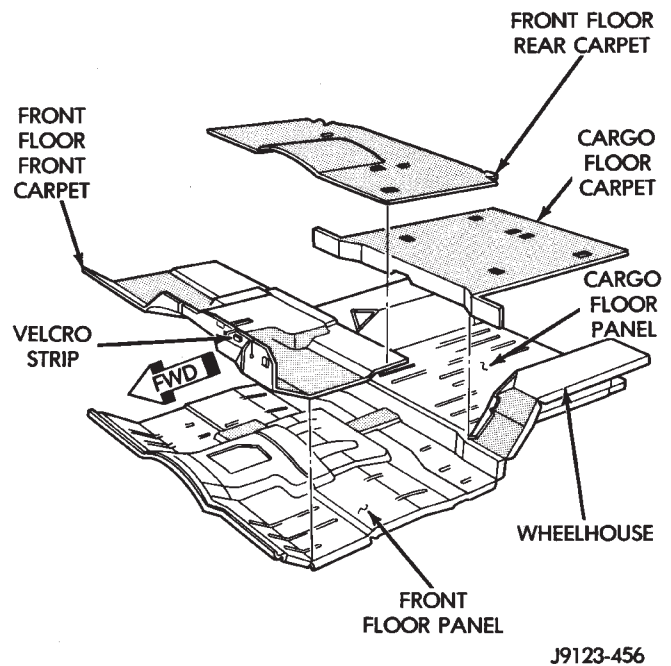
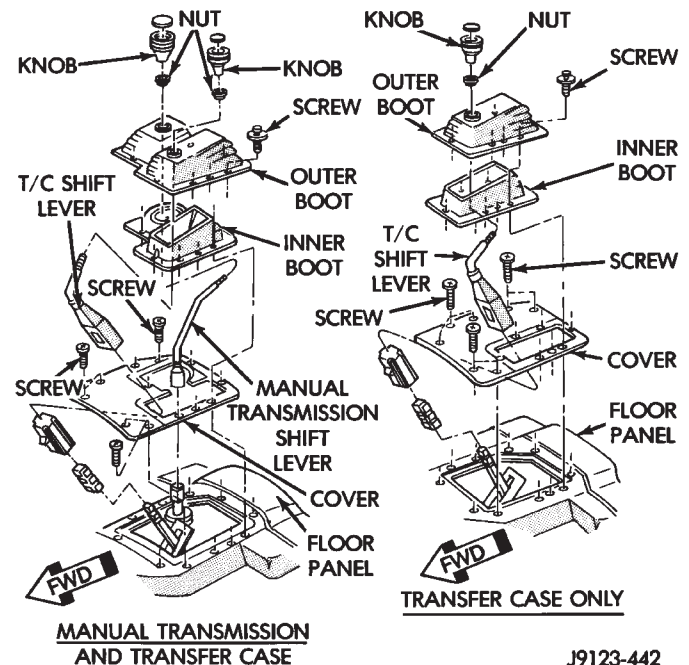

Fig. 30 Floor Carpets
Fig. 31 Shift Lever Boots
The front floor rear carpet (Fig. 30) is retained in place by the:
To remove and then install a front floor rear carpet (Fig. 30), it is necessary to remove and then install the front seats and the floor console.
The front floor front carpet (Fig. 30) is retained in place by the:
- transmission/transfer case shift lever boots (Fig. 31),
To remove and install a front floor front carpet (Fig. 30), it is necessary to remove and then install the shift lever boots (Fig. 31).
When replacing a front carpet, position and cut openings in carpet with a razor knife for shift levers and boots (Fig. 31).
The cargo floor carpet (Fig. 30) is retained in place by the:
To remove and then install a cargo floor carpet (Fig. 30), it is necessary to remove and then install the rear seat.